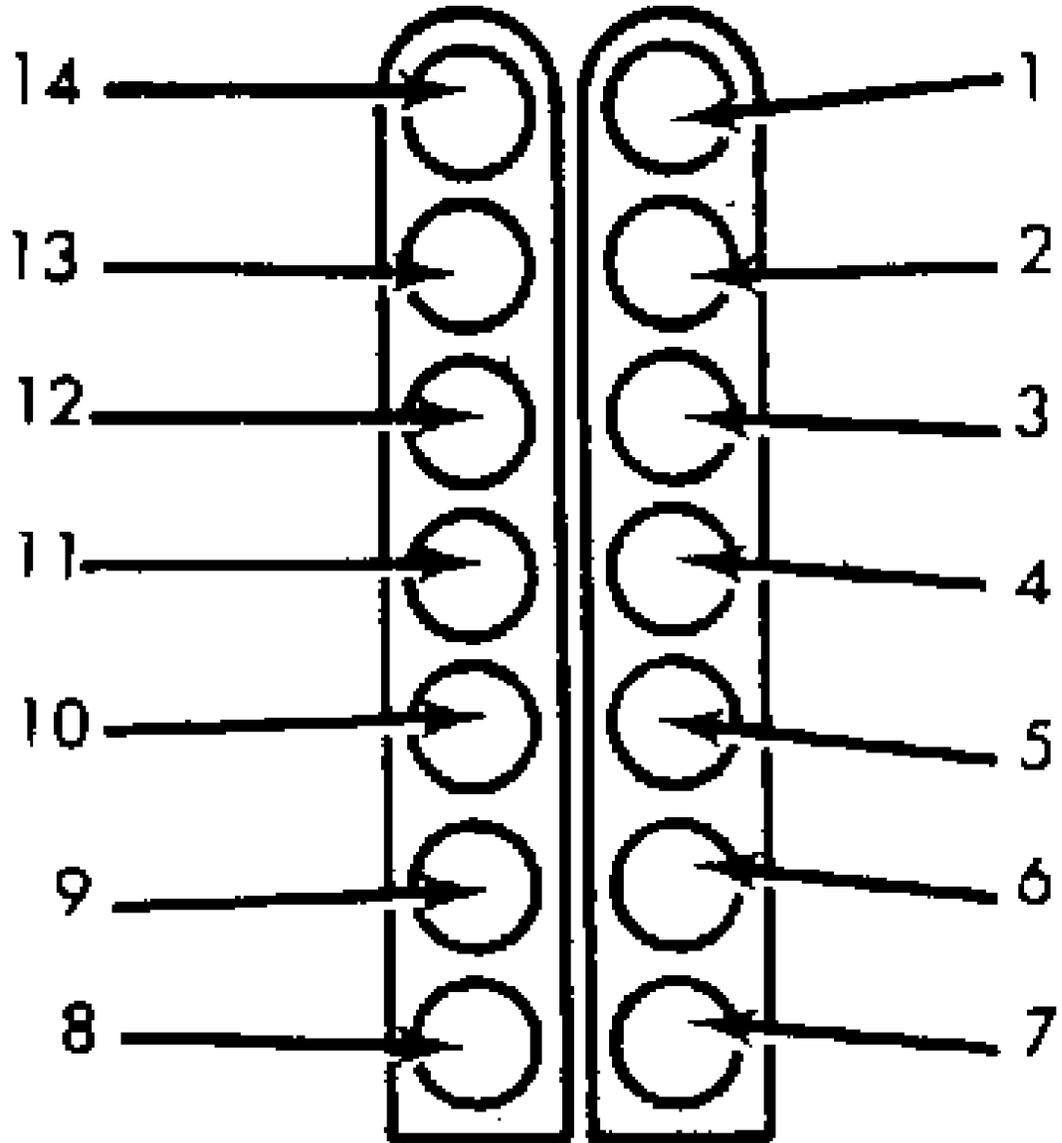

Fig. 7: Power Module 14-Way Connector
1) This test will check field circuit to SMEC. Disconnect SMEC 14-way connector. See Fig. 7.